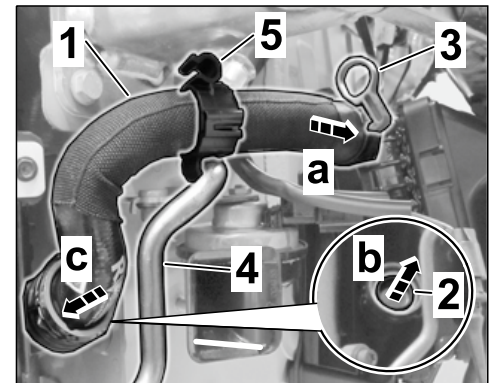

Figure 16
- 3.5.1 Fit right coolant hose on middle radiator ⇒ *Figure 16 -arrow a-*.
- 3.5.2 Remove dummy plug ⇒ *Figure 16 -2-* at the bottom of the side radiator at the right ⇒ *Figure 16 -arrow b-* and engage the right coolant hose in the coupling on the side radiator ⇒ *Figure 16 -arrow c-*.
- 3.5.3 Remove lock from clip ⇒ *Figure 16 -3-*.
- 3.5.4 Insert refrigerant line ⇒ *Figure 16 -4-* in holder ⇒ *Figure 16 -5-*.